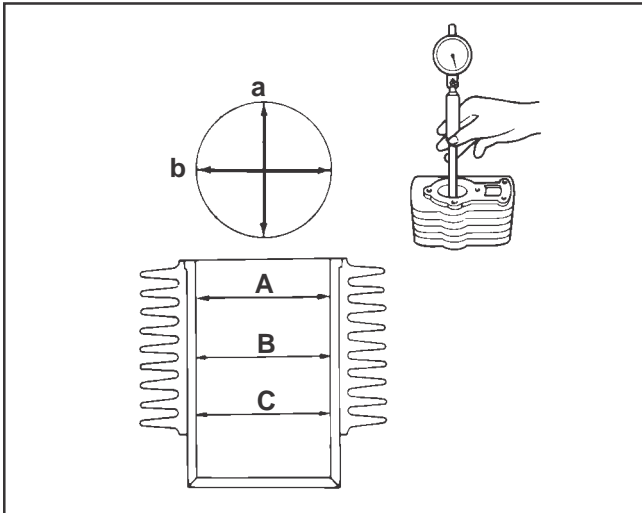

Figure 10-6. Measuring Cylinder Bore.
Check the cylinder bore for wear, scoring, or vertical scratches. In severe cases, unburned fuel can cause scuffing and scoring of the cylinder wall, it washes the necessary lubricating oils off the piston and cylinder wall. As raw fuel seeps down the cylinder wall, the piston rings make metal to metal contact with the wall. Scoring of the cylinder wall can also be caused by localized hot spots resulting from blocked cooling fins or from inadequate or contaminated lubrication. Measure the cylinder bore using an inside micrometer or bore gauge. See Figure 10-6. Compare readings with specifications in Section 1.
4. After resizing, check the bore for roundness, taper, and size. Use an inside micrometer, telescoping gauge, or bore gauge to take measurements. The measurements should be taken at three locations in the cylinder – at the top, middle, and bottom. Two measurements should be taken (perpendicular to each other) at each of the three locations. See Figure 10-6.